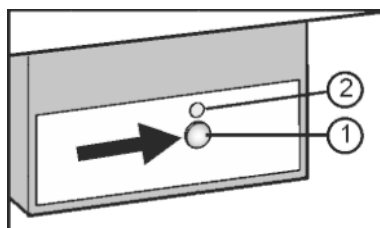

Fig. 17
- ▶ Press On/Off button Fig. 17 (1) so that the LED Fig. 17 (2) lights up.